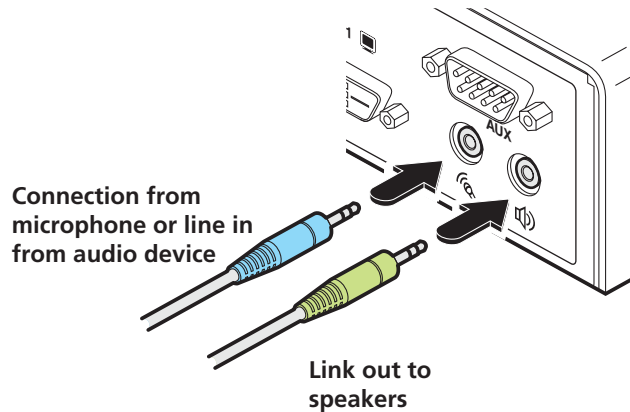

Figure 3-16. Connect the speaker and microphone cables to audio sockets.
- 2 Connect the lead from stereo speakers to the 3.5mm socket labeled  on the rear panel. See Figure 3-16.